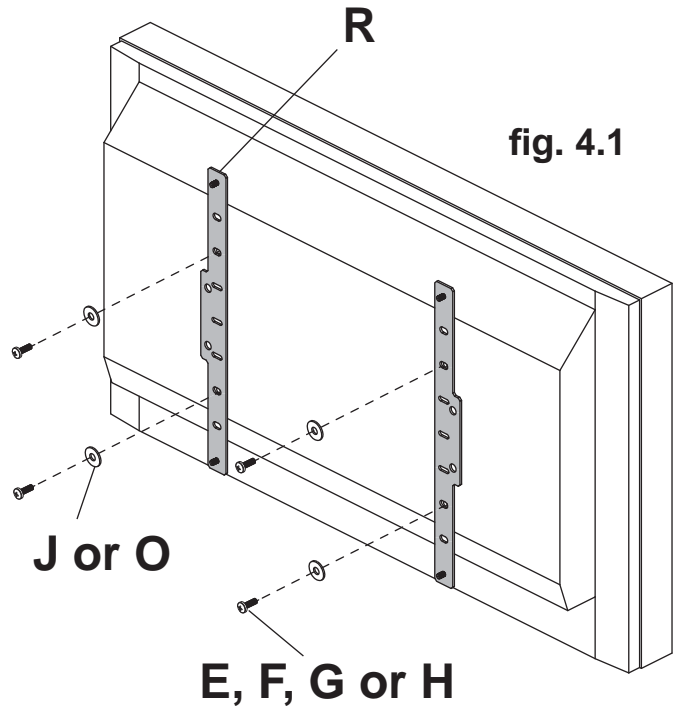

fig. 4.1
- 4 Determine hole pattern of display and fasteners used. Hand thread screws (**E, F, G or H**) through washers (**J or O**) and adapter brackets (**R**) into screen as shown in figure 4.1.